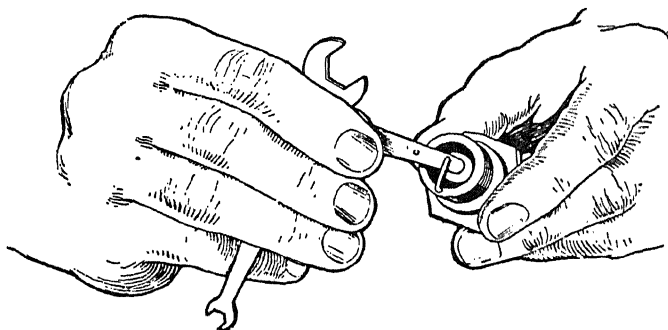

Fig. 2. Setting and Gauging Spark-Plug Air Gap
2. If any one cylinder fails: (a) Inspect the ignition system for an air gap on spark plug too wide, Fig. 2; (b) broken spark plug porcelain; (c) loose or broken high-tension cables; (d) moisture on spark plug or about distributor; (e) burned-out coil or coil resistance unit; (f) carbon on plugs or fouled plugs; (g) fouled, broken, or cracked distributor head.